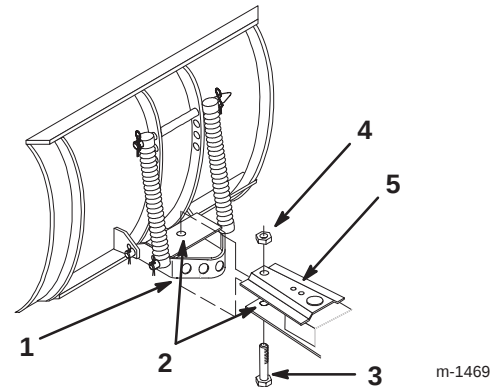

Figure 4
6. Apply general-purpose grease to the pivot area of the frame and channel (Fig. 4).
7. Slide the channel into the frame mount and secure it with a bolt (3/4-16 x 3-3/4 inch) and a locknut (3/4 inch) as shown in Figure 4.
Note: Insert the bolt from the underside of the frame mount as shown in Figure 4.